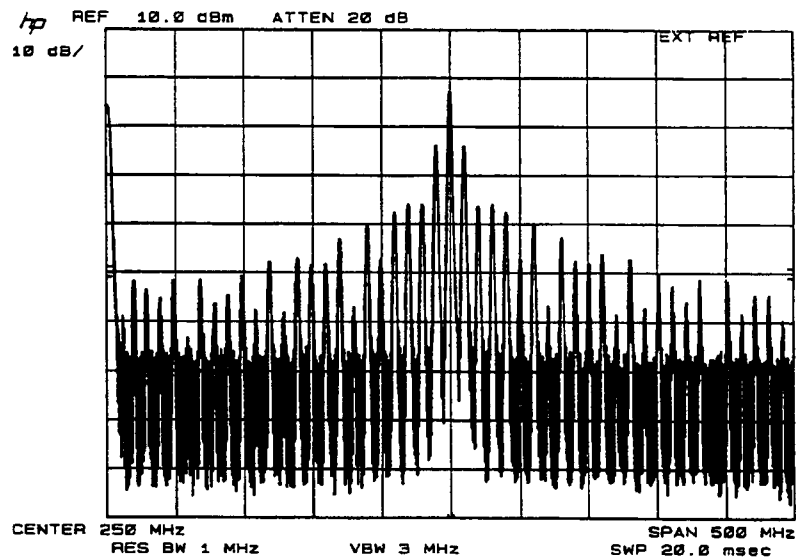

Figure 5-10. Good 10 MHz Asynchronous Data Rate
4. Connect an RF signal generator to the Vector Signal Generator's I/O input. Set the RF signal generator to 10 MHz and +10 dBm. The spectrum analyzer display should look like Figure 5-10.